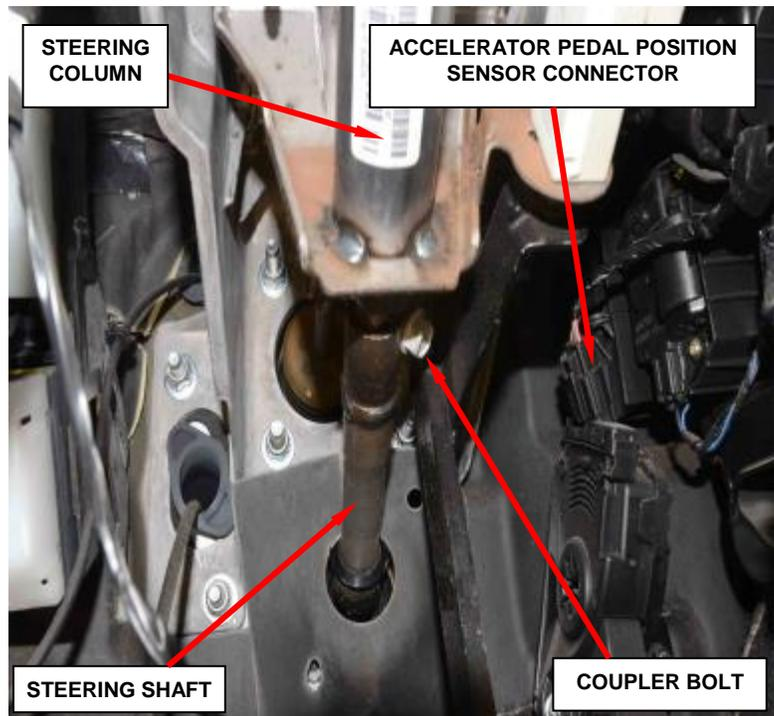

Figure 70 – Steering Shaft Coupler
- a. Disconnect the accelerator position sensor electrical connector (Figure 70).
14. Remove and **discard** the upper steering shaft coupler bolt from the column (Figure 70).